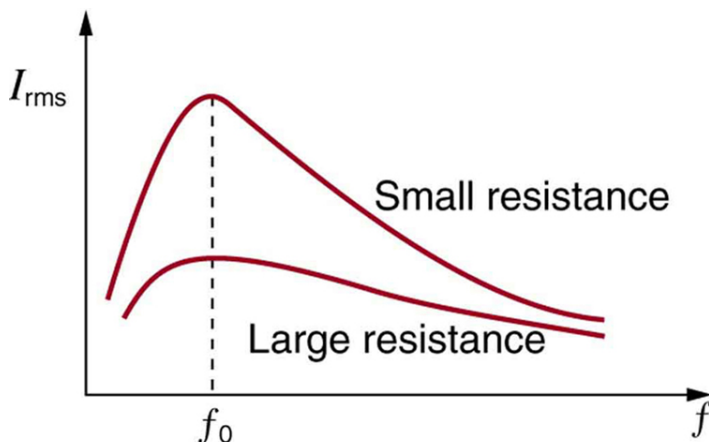

Figure 2: A resonance curve for an RLC circuit.
Answer the questions below Fig. 2.
3. Your graph should resemble Fig. 2, near the peak. Is this the case?